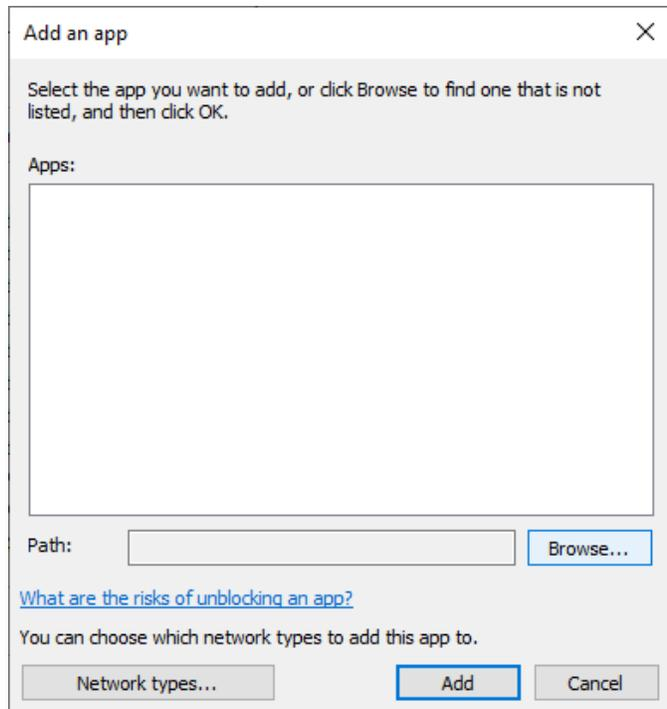

Figure 13: Browse to select the app you want to add in the Add an App dialog box.
11. In the Add an App dialog box, browse to C:\Caddy and select the .exe file (Figure 13).